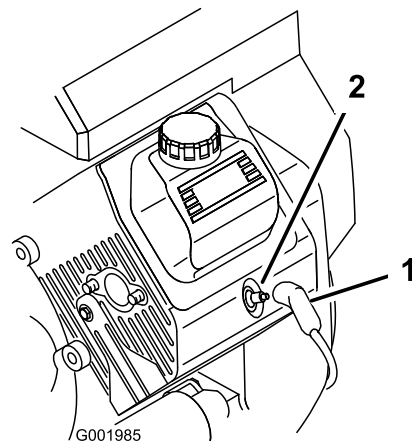

Figure 50
3. Pull the wires off the spark plugs (Figure 50).
3. Push the wires onto the spark plugs (Figure 50).